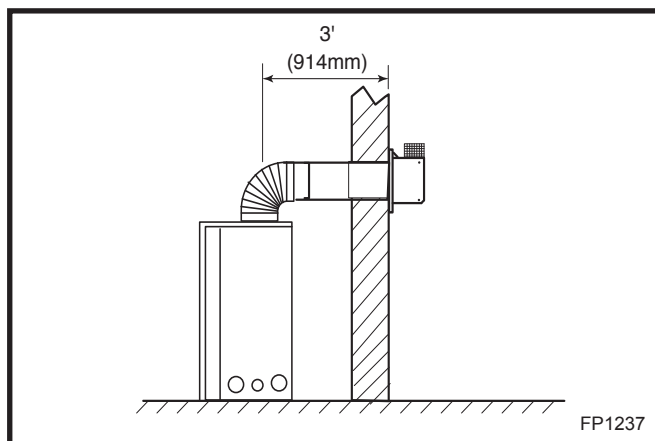

Fig. 46 Maximum horizontal vent run.
- The maximum number of 90° elbows per side wall installations is three (3).
**Example:** According to the chart the maximum horizontal vent length in a system with a 7.5' (2.3 m) vertical rise is 20' (6 m) and if a 90° is required in the horizontal vent it must be reduced to 17' (5.2 m). In Figure 46, Dimension A plus B must not be greater than 17' (5.2 m).